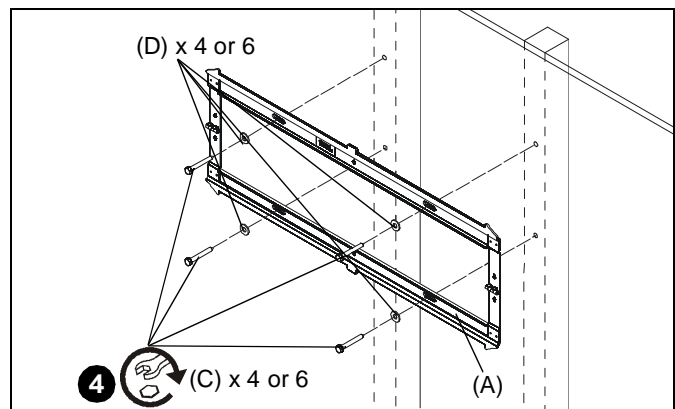

Figure 4
4. Install 5/16 x 2 1/2" hex head cap screws (C) through four flat washers (D), wall plate (A) and into wood studs. (See Figure 4)